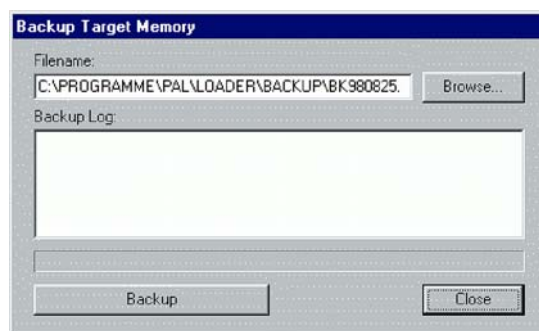

Fig. 23 PAL Loader Backup Target Memory
- 4 Click the **"Backup"** button. A dialog box entitled **"Backup Target Memory"** will be displayed. The path (storage location) and file name to be assigned to the new backup will be shown. A customized path and/or filename may be entered (see Figure 23).